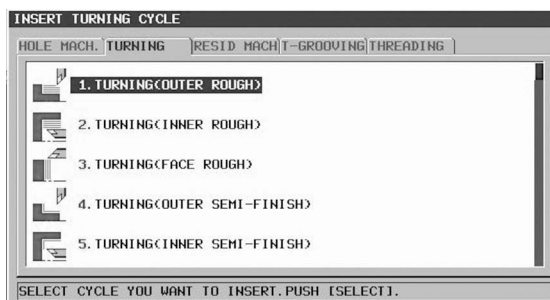

Figure 7-24 TURNING (OUTER ROUGH)
1. Press the CYCLE soft key and use the arrow key to position over the TURNING tab. Select the TURNING (OUTER ROUGH) as shown in Figure 7-24; then press the SELECT soft key.